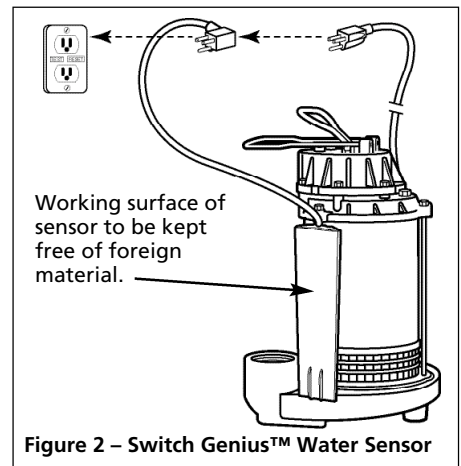

Figure 2 – Switch Genius™ Water Sensor
3. Insert the pump power cord plug directly into the back of the water sensor cord plug (Figure 2).
grounded outlet. In this condition, the pump will run continuously. Once pump operation is verified, replace pump power cord into the back of the water sensor plug (see Figure 2).
5. Wipe water sensor surface regularly to prevent silt or other coatings from building up on sensor face (see Figure 2).